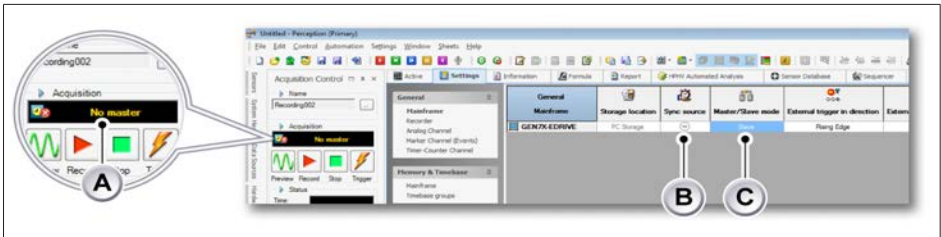

Fig. 14.25 Status - No master detected
- **No master** (see Fig. 14.25)